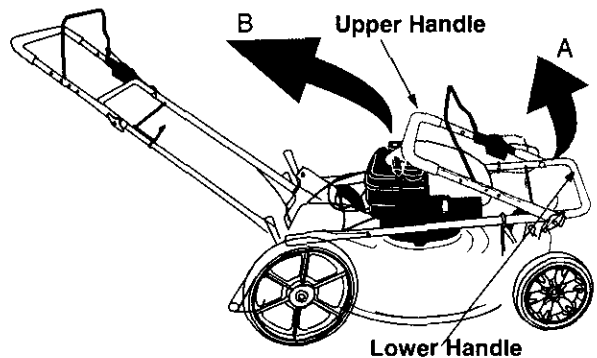

Figure 4
- Raise the lower handle in the direction A shown in Figure 4. The lower handle should snap into place.
- Raise the upper handle in the direction B shown in Figure 4. Tighten the wing nuts which are already on the handle.